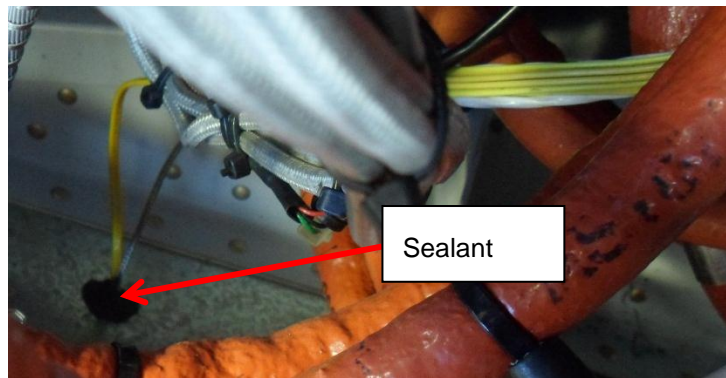

**Figure 1: Location for CHT Probe Installation**
1. Loosen the clamps screws as shown in the figure 1.